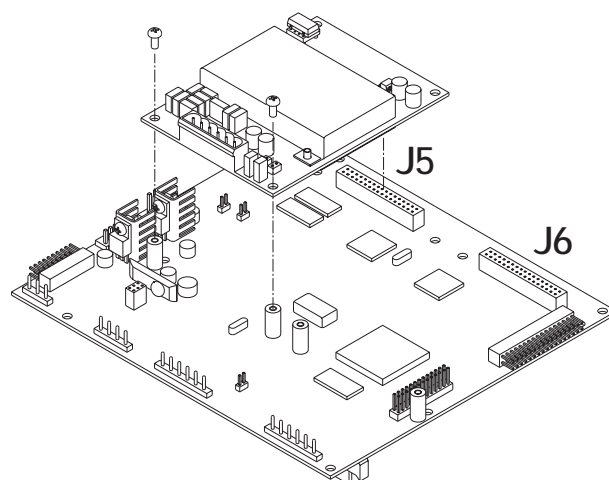

Figure 2-5. Installing Option Card Onto CPU Board
2. Carefully align the large option card connector with connector J5 or J6 on the CPU board (see Figure 2-5). Press down to seat the option card in the CPU board connector.
3. Use the screws provided in the option kit to secure the other end of the option card to the threaded standoffs on the CPU board (see Figure 2-5).